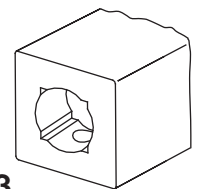

FIGURE 3
3 Attach the other ends of the Glass Shelf Frame to the Legs (2), by sliding the ends with the notched round holes (Figure 3) over the factory-installed Square Connectors (6C).